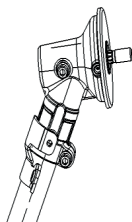
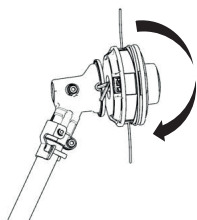

Fig. 4
Fig. 5
2. Rotate the drive shaft until you can see a hole inside the gear case side (Fig.4), put the T20 TORX key inside the inside hole, and rotate the trimmer head onto the drive shaft by anti-clockwise, until it's tight enough (Fig.5).